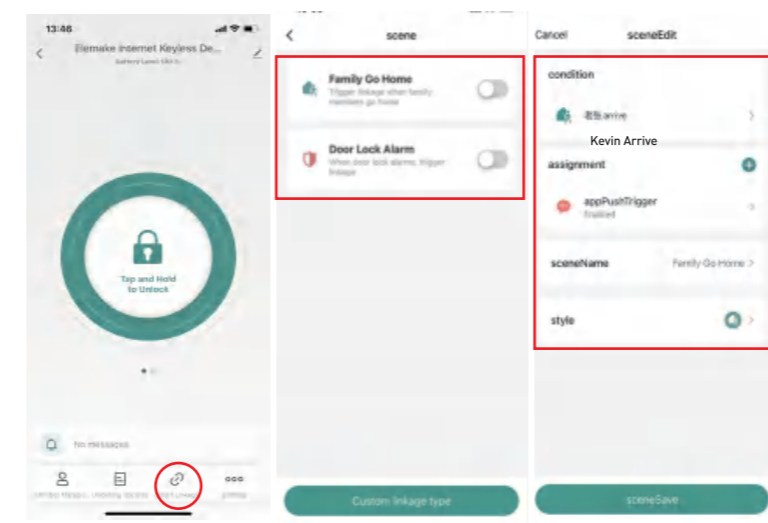

Figure Q-4
(4) Go home alert/door abnormal alert. (Figure Q-4)